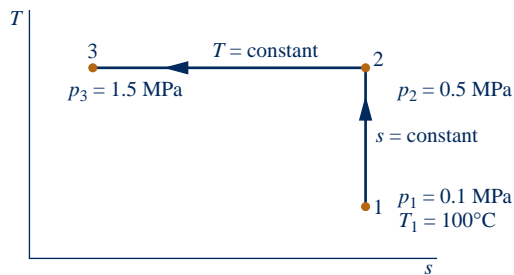

Fig. P6.20
6.20 One kilogram of water in a piston–cylinder assembly undergoes the two internally reversible processes in series shown in Fig. P6.20. For each process, determine, in kJ, the heat transfer and the work.